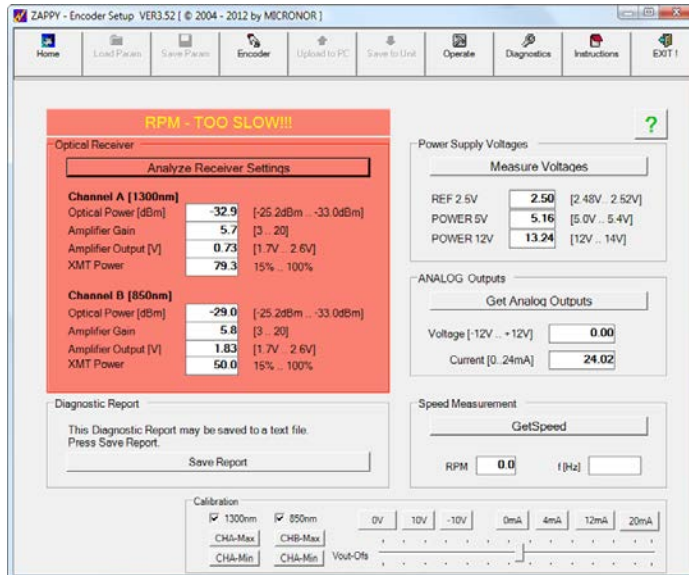

Figure 17. Initial DIAGNOSTICS Screen when encoder is inactive.
STEP 3. Select [DIAGNOSTICS] to view various monitoring points within the MR320. Figure 17 shows the initial screen or else when the encoder is not moving. When the encoder is still, the system cannot take a snapshot of these internal points since there is no slit-to-slit movement - hence the red-framed **RPM TOO SLOW** message. Depressing [DIAGNOSTICS] tab while the encoder is rotating provides a snapshot of the internal monitoring points as shown in Figure 18. Repeatedly clicking on [DIAGNOSTICS] will update the entire set of readings while the individual diagnostic groups (Voltage Test, Optical Sources, Slit Period Measurement and Input Amplifier) which can also be updated individually. A brief explanation of the relevant diagnostic fields follows on the next page.